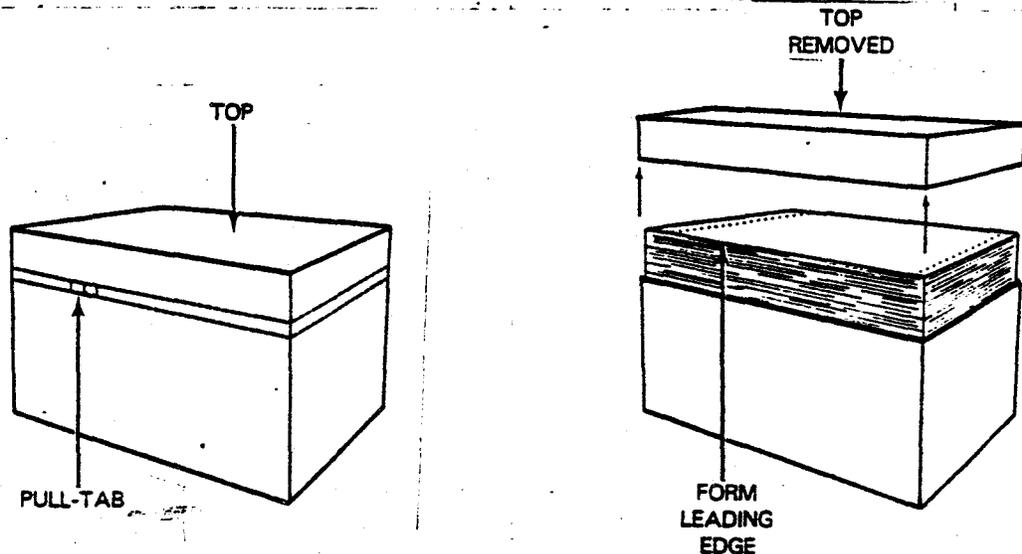

Figure 4-5. Forms Container Prepared for Printer Operation (Pull-tab Box)
12. Prepare the pull-tab cardboard forms container (Figure 4-5) for efficient paper feed as follows: